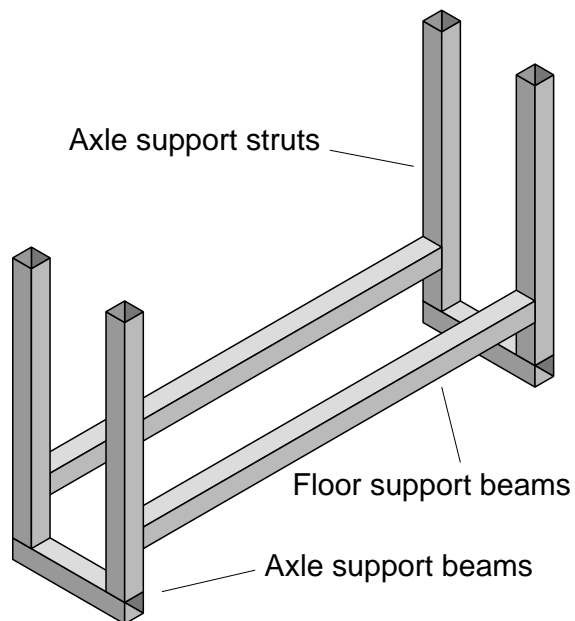

Figure 5: finished centre frame assembly.
- 5) Now stand the H frames on the two axle support beams, tack or spot weld them and check that all the joints are square. Figure 5 shows what the finished centre frame assembly should look like.